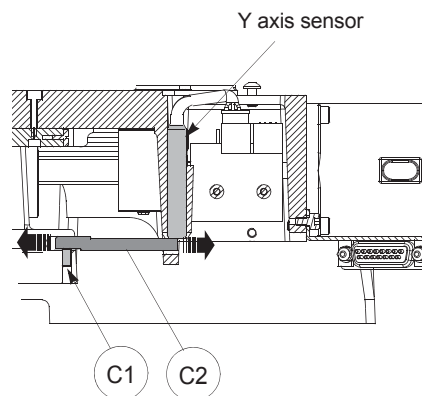

Fig. 119
- use the provided allen key to loosen the (C1) grub screw; manually rotate the (C2) rod (fig. 119) in both directions up until the changeover point from OFF to ON is found.